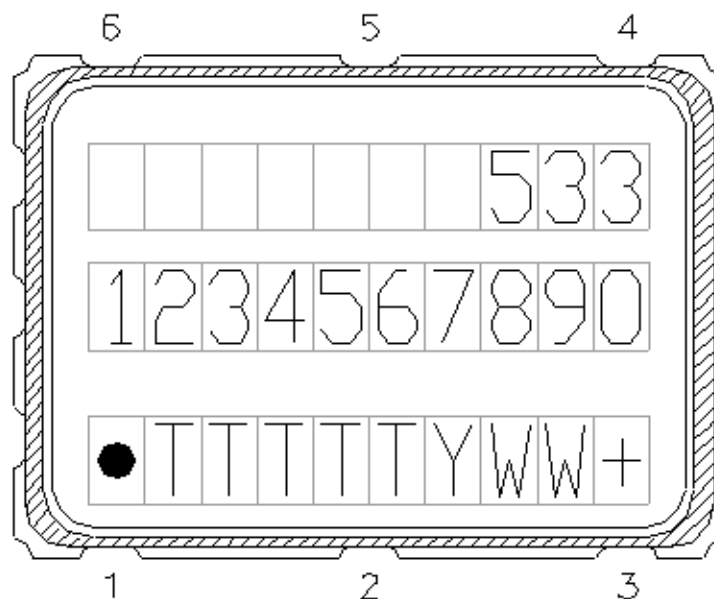

Figure 3. Mark Specification
Figure 3 illustrates the mark specification for the Si533. Table 11 lists the line information.
- Updated Figure 3 and Table 11 on page 9 to reflect specific marking information. Previously, Figure 3 was generic.